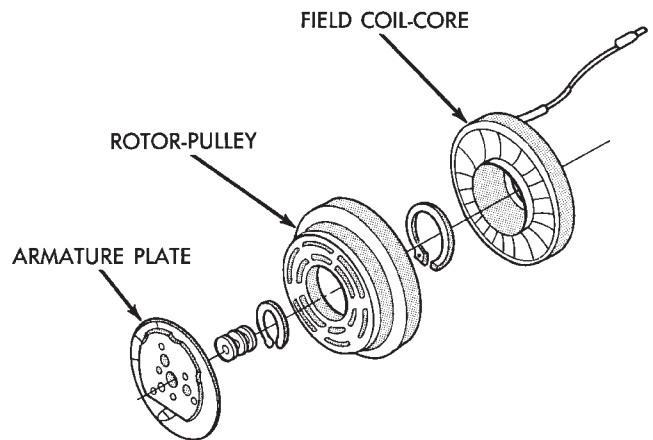

Fig. 22 Clutch Plate/Pulley/Field Coil
- (3) Lightly tap clutch plate with a plastic hammer and remove plate and shim(s) (Fig. 22).
(4) Remove pulley retaining snap ring with snap ring pliers. Remove pulley assembly from compressor. Use a plastic hammer, if necessary.
(5) Loosen the lead wire retaining clamps and remove lead wire from the compressor front end cover. Disconnect the lead wire from the thermal limiter switch.
(6) Remove snap ring which secures field coil-core assembly to the front cover (Fig. 22). Note the alignment of field coil-core assembly when removing.